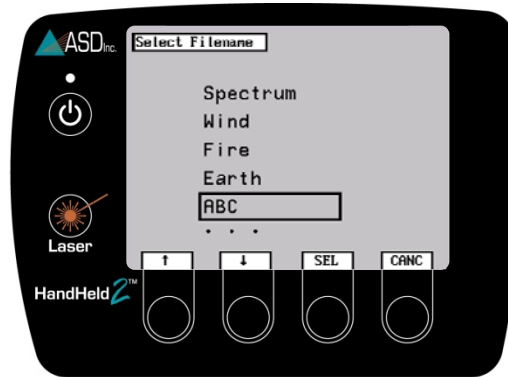

Figure 2-30: Select newly created name
- Step 8 Press the SEL button to set the new name as the filename for the spectral files (Figure 2-30). This step will also return the screen to the File Save submenu.